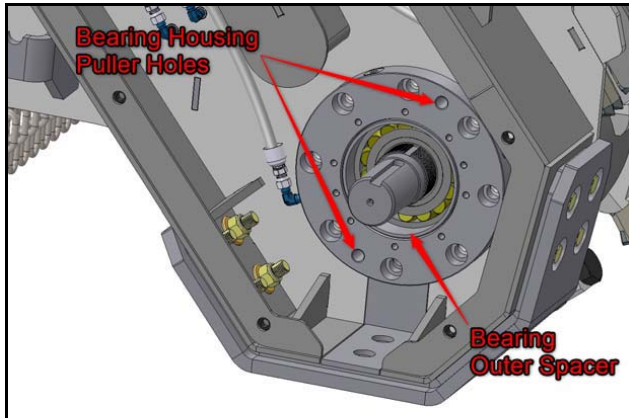

Figure 20
7. Straighten out the locking petal of the daisy lock washer [Figure 20].